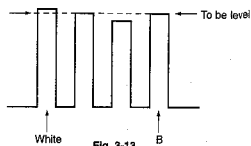

Fig. 3-13
- Adjust the SUB PHASE so that all outputs will be the same. (Fig. 3-13)